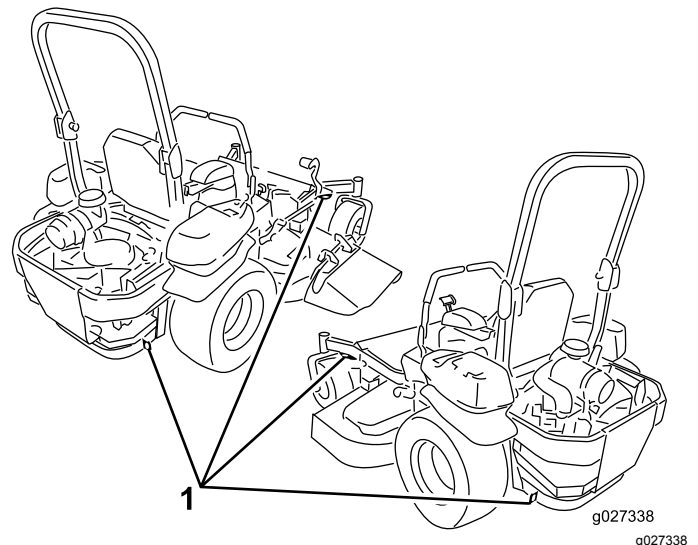

Figure 43
6. Tie down the machine near the front caster wheels and the rear bumper with straps, chains, cable, or ropes (Figure 43). Refer to local regulations for tie-down requirements.